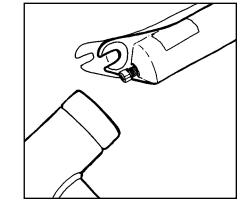

Fig. 6
6. Partially loosen shaft bolts with a 5mm hex wrench, tap bolts firmly with a mallet breaking shafts free from lower tube (see Fig. 6), and remove bolts completely. Oil from the HydraCoil system will pour out of the bottom of the lower tube assembly when you remove the shaft bolts. Use the oil pan to catch and properly dispose the oil.